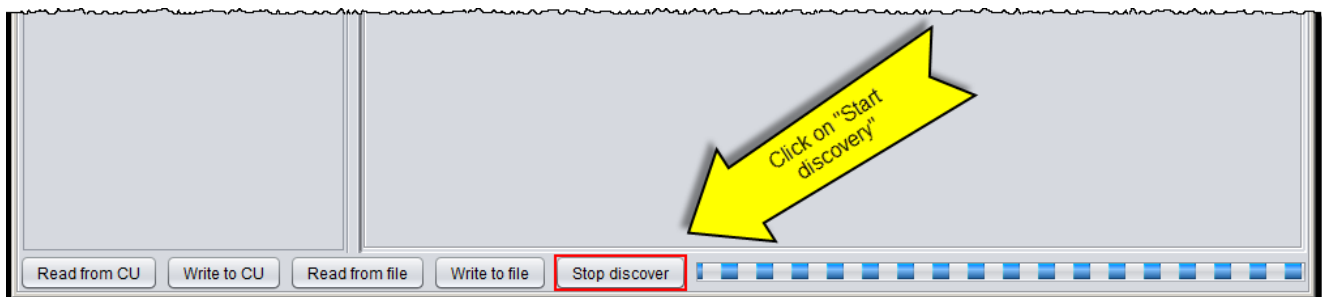

Figure 38: Start discover
1. If not done yet, click on "**Start discover**" button as shown in Figure 38 to put the CU in *Discovery mode*. In this mode the CU checks for new IDAMs or DAMs present in the system.
1. If not done yet, click on "**Start discover**" button as shown in Figure 38 to put the CU in *discovery mode*. In this mode the CU checks for new IDAMs or DAMs present in the system.